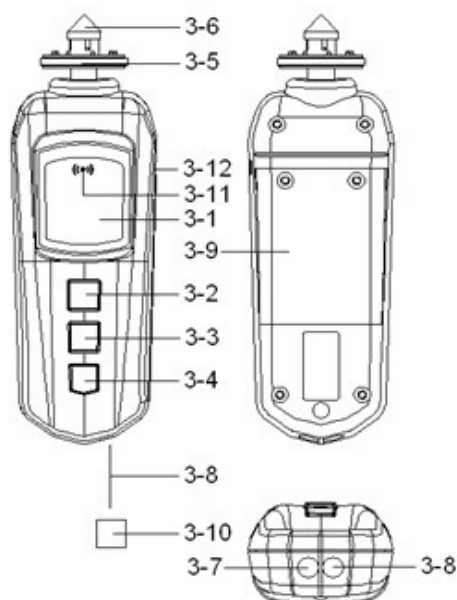

Fig. 1
- 1) Short press the " TEST(Power) Button " ( 3-2, Fig. 1 ) once, the meter will power ON,
- 2) Short Press " Function Button " ( 3-3, Fig. 1 ) momentarily in sequence, the function will change to
- e. *Photo RPM measurement, display shows " RPM " symbol, at the same time the " Laser Light Beam " ( 3-8, Fig. 1 ) will be generated.*
- 2) Align the " Laser Light Beam " ( 3-8, Fig. 1 ) with the applied target. Verify that the " Monitor Indicator " ( 3-11, Fig. 1 ) lights when the target pass through the light beam.
- 2) Lightly pressing the " RPM Adapter " ( 3-6, Fig. 1 ) against the center hole on the hole of the measured rotating axis.
- 2) Simply attaching the " Surface Speed Wheel " ( 3-5, Fig. 1 ) to the detector.reading stabilizes ( approx. 2 sec. ).
- a. First press and hold the " Memory Button " ( 3-4, Fig. 1 ) - To display the last value ( " LA " and " the last value " will be displayed alternately ).
- ( 3-9, Fig. 1 ).
- \* Make sure the " Battery cover " ( 3-9, Fig 1 ) is secured after changing the batteries.
The instrument has RS232 PC serial interface via a 3.5 mm terminal ( 3-12, Fig. 1 ).